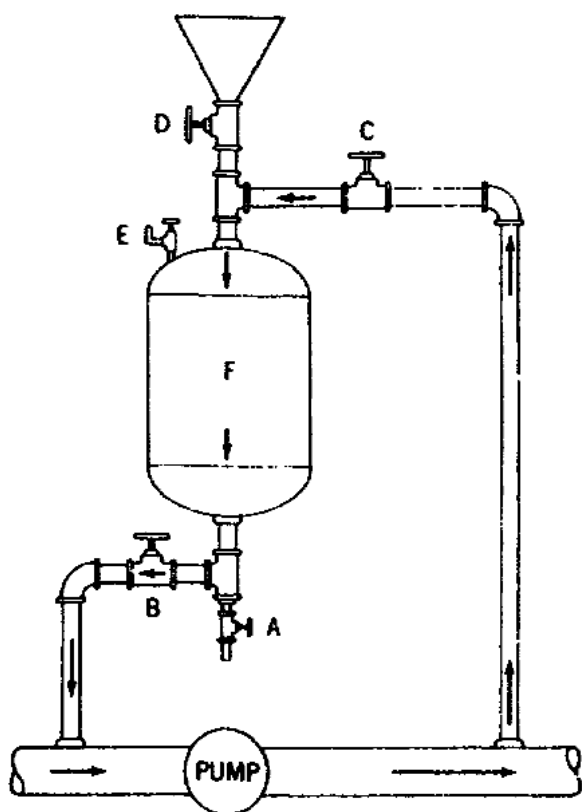

Figure 74. Pot type feeder.
18. *Corrosion inhibitor feeders.* Many times a simple bag will be used to feed the chemicals into the water. The chemicals, in pellet or crystal form, are placed in nylon net bags and hung in the cooling tower sump. However, chilled water and brine systems require the use of a pot type feeder similar to the feeder shown in figure 74.
19. The chemical charge is prepared by dissolving the chemicals in a bucket and then filling the pressure tank (F) with the solution. Valves B and C are closed, and valve A is opened to drain the water out of the tank. After the water is drained, close valve A and open valves D and E. Then fill tank (F) with the dissolved chemical solution. Opening valves B and C after you have closed valves D and E will place the feeder in operation. The feedwater from the discharge
20. Another type of feeder you may use is the pot type proportional feeder. This type, similar to the one shown in figure 74, has an opening to permit charging with chemicals in briquette or lump form. A portion of the water to be treated is passed through the tank, gradually dissolving the chemicals.